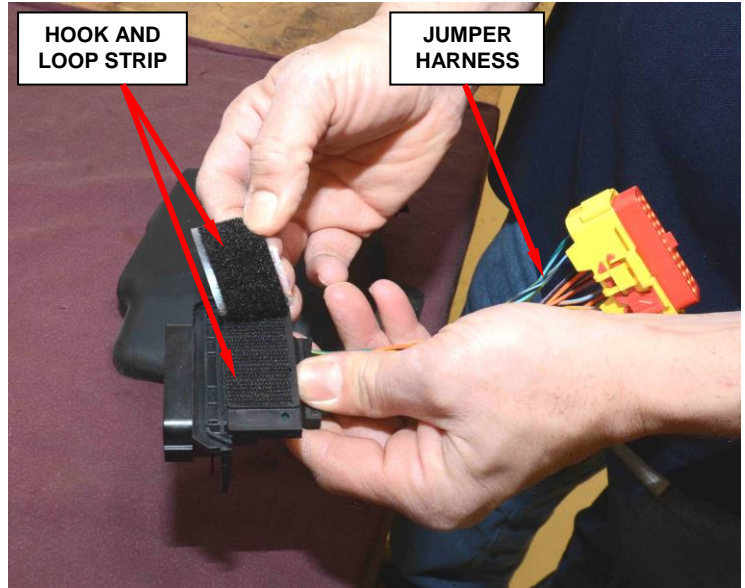

Figure 5 – Separate Hook and Loop on Jumper Harness
17. Carefully separate the hook and loop strip from the jumper harness black connector (Figure 5).